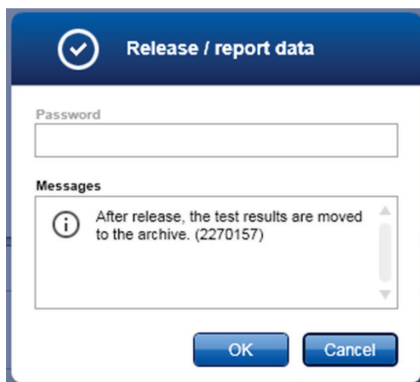

Figure 14. "Release/report data" dialog.
- Click "OK" to save the experiment to the archive and create a LIMS output and run report (Figure 14). Run reports and LIMS exports will be saved in the default report directory. The default directory can be found in the "Default data export directories" in the "Configuration" tab.